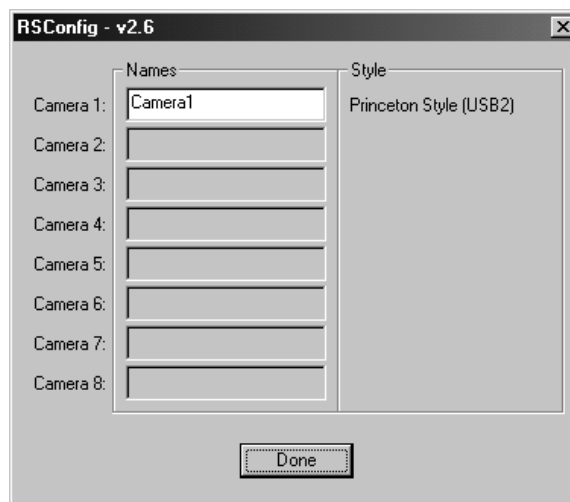

Figure 5. RSConfig dialog box
4. When the RSConfig dialog box (Figure 5) appears, you can change the camera name to one that is more specific or you can keep the default name "Camera1". When you have finished, click on the **Done** button.
- When the RSConfig dialog box (Figure 5) appears, you can change the camera name to one that is more specific or you can keep the default name "Camera2". When you have finished, click on the **Done** button.